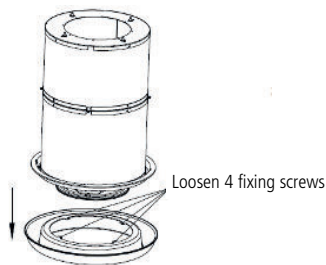

Fig.3
4. Remove the Light panel/casing by removing the 4 fixing screws (Fig.3)